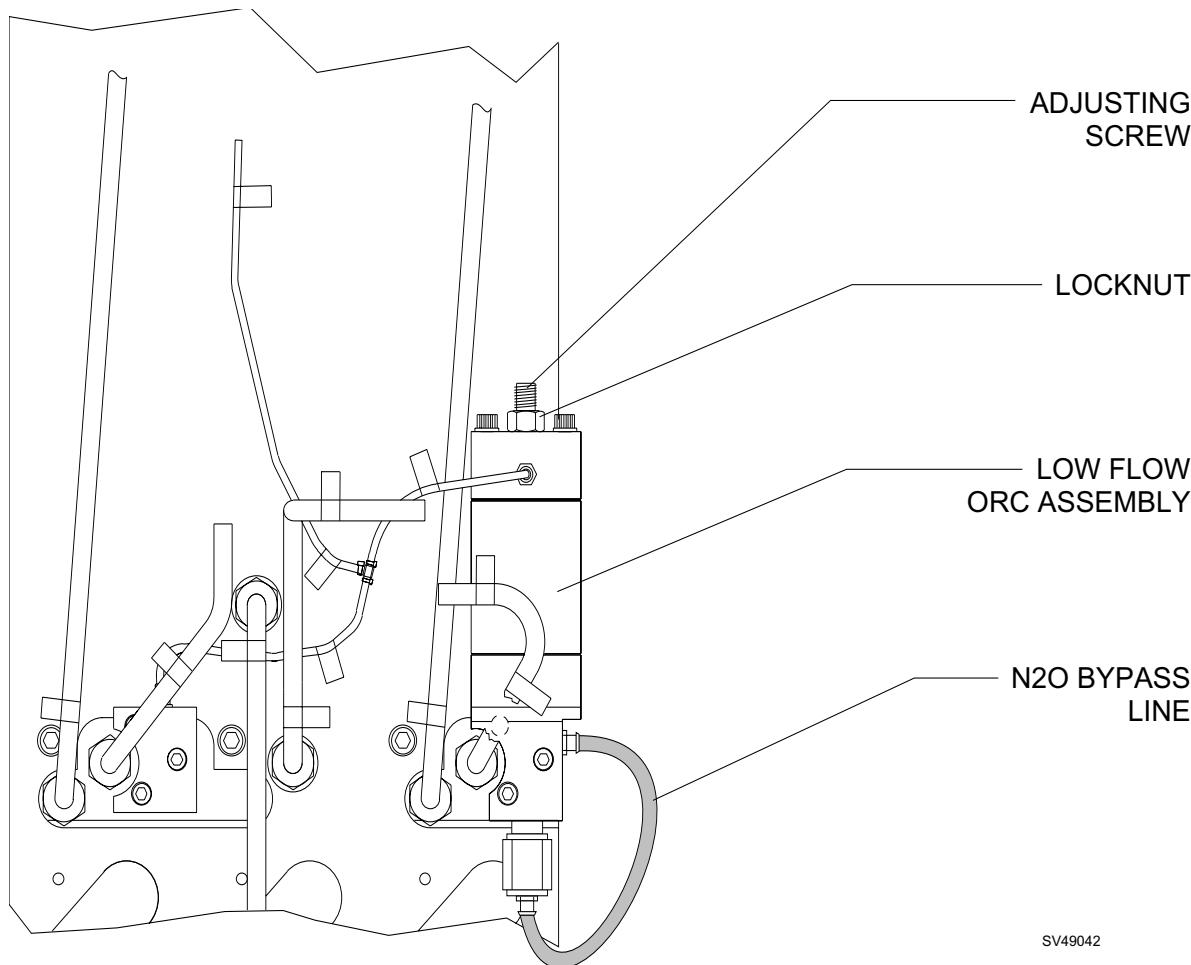

Figure 5-5A: LOW FLOW OXYGEN RATIO CONTROLLER
- 5.5.4A Pinch the N₂O bypass line on the ORC. See Figure 5-5A.